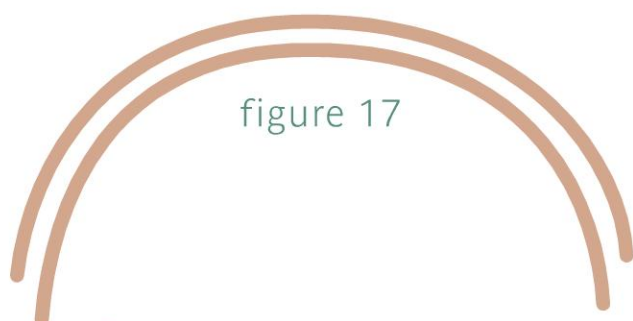

figure 17
- 2 Arch the wires on a bracelet mandrel. One frame wire needs to be arched slightly smaller than the second frame wire so they fit side by side (Figure 17).